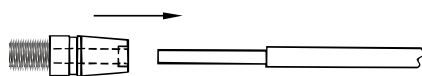

Fig. 2A End Ferrule Repair
6. Apply drop of adhesive to fi fiberglass core end (in case of a splice, do one end at a time as in Fig. 2A) and spread over core with toothpick or nail.
7. Twist ferrule as you insert rod (Fig. 2A and 2B). Clean off excess glue. Return unused materials to kit. Return unused materials to kit.